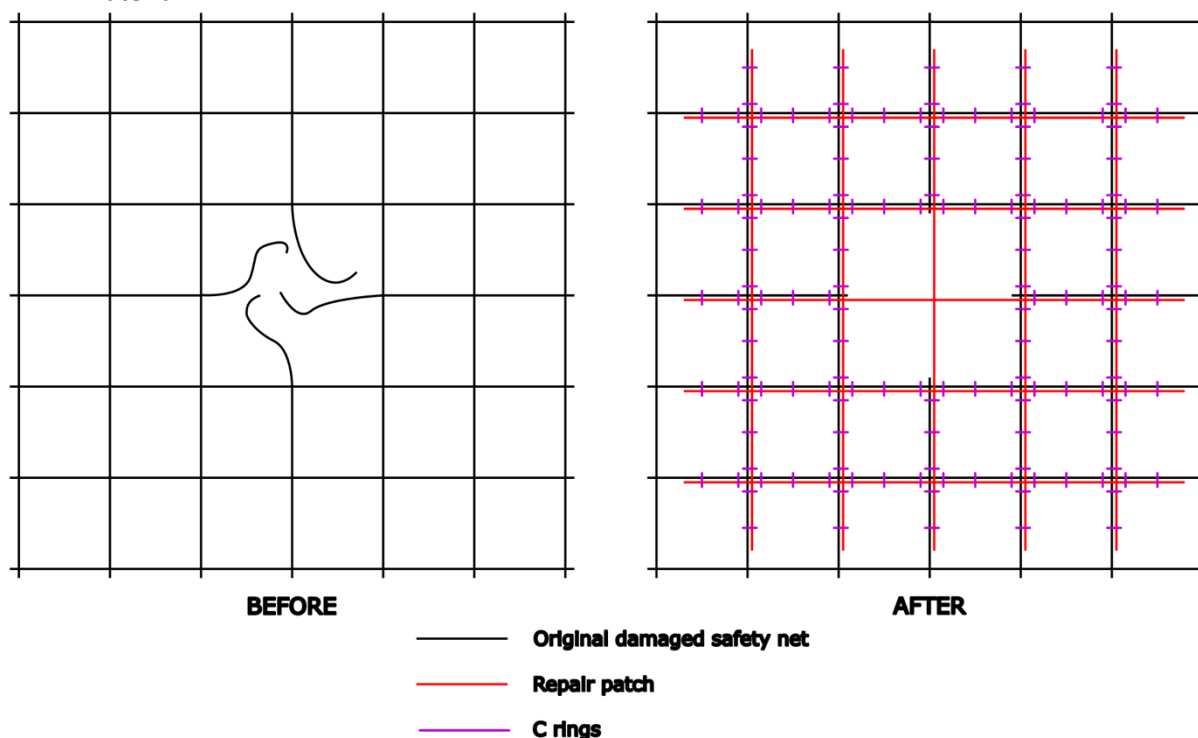

Figure 8. Patch repair using C rings.
- The C rings shall be applied as per Figure 8 and shall enclose both the original net and new patch material.